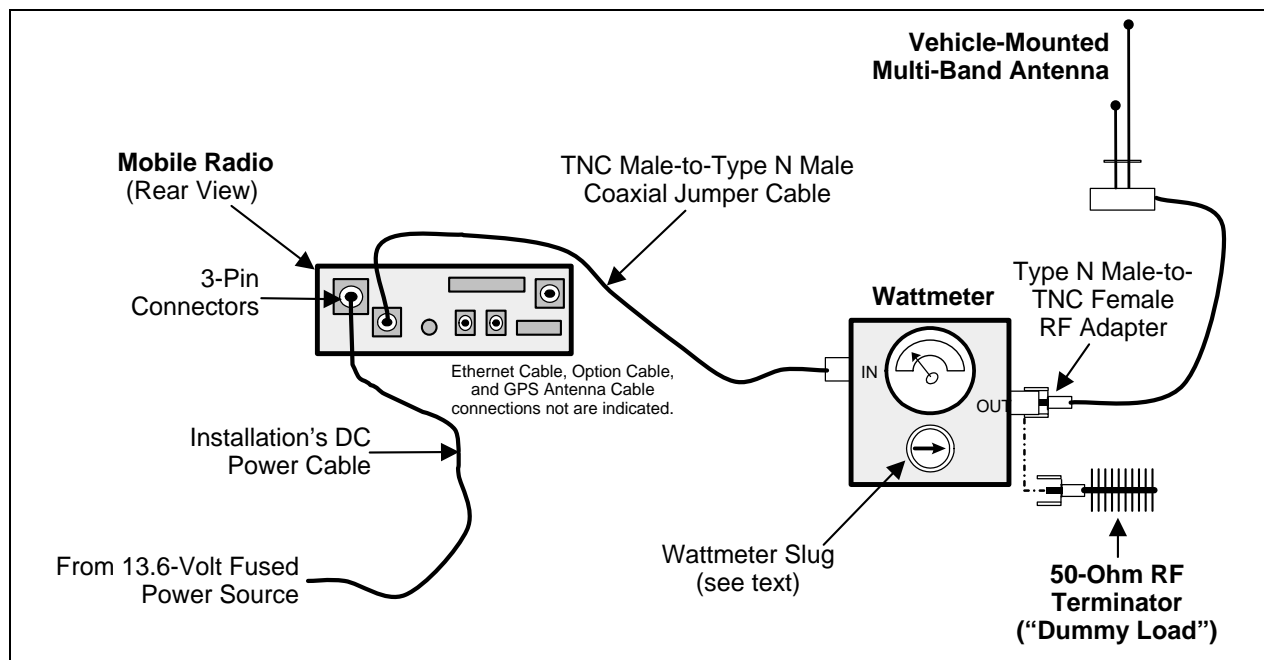

Figure 12-1: Wattmeter Connections for Antenna System Tests
2. Using the Type N male to TNC male RF coaxial jumper cable, connect the radio's antenna connector to the wattmeter's input connector. Refer to Figure 12-1 as necessary.
2. Connect the antenna cable from the vehicle-mounted antenna to the wattmeter as shown in Figure 12-1.